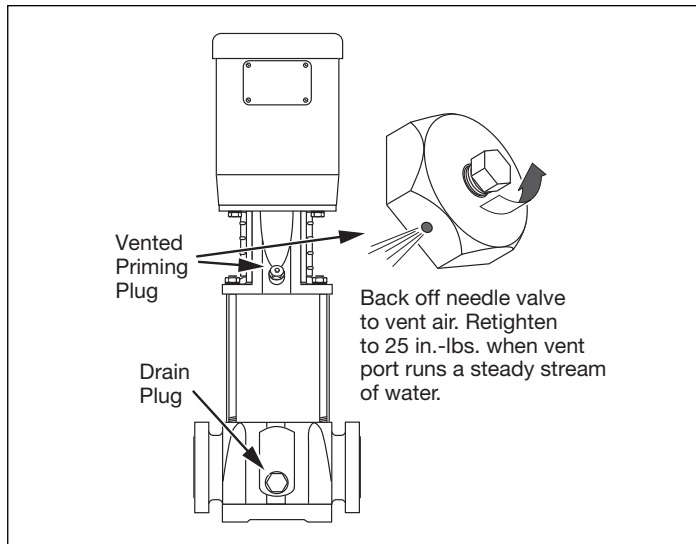

Figure 6: Priming and Drain Plugs
1. Close the discharge isolating valve and loosen the needle valve located in the assembly in the pump head (Figure 6). Do not remove the needle valve.